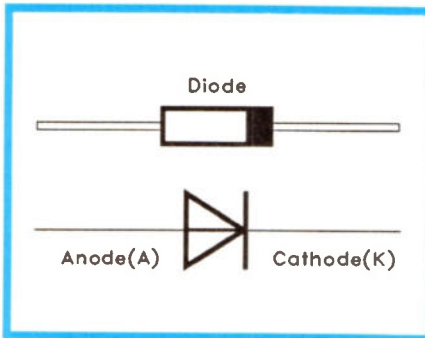

Figure 5. Diode symbol and connections (D1).
d) The next component to be fitted is D1, which is a small tube-like component having a lead at each end of its black body. Like LD1, it must be connected the right way round (In other words, D1 is a 'polarised' component). Its 'polarity', which tells us the way in which it must be positioned, is indicated by a white (or silver) band close to one end of the body, see Figure 5. The diode should be fitted so that the band lines up with the band on the drawing of the diode on the guide-sheet.